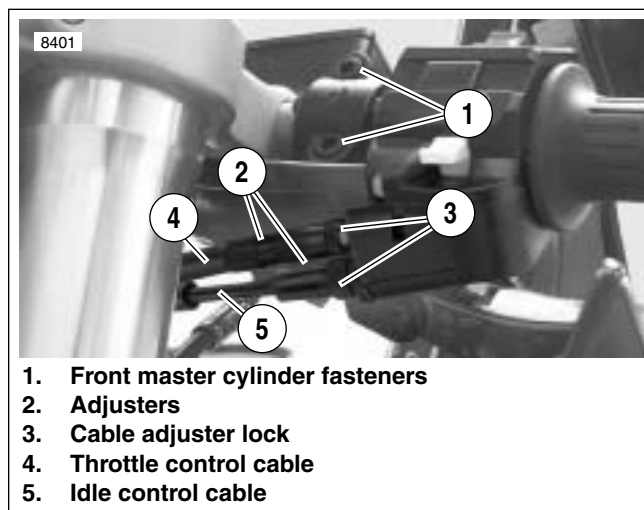
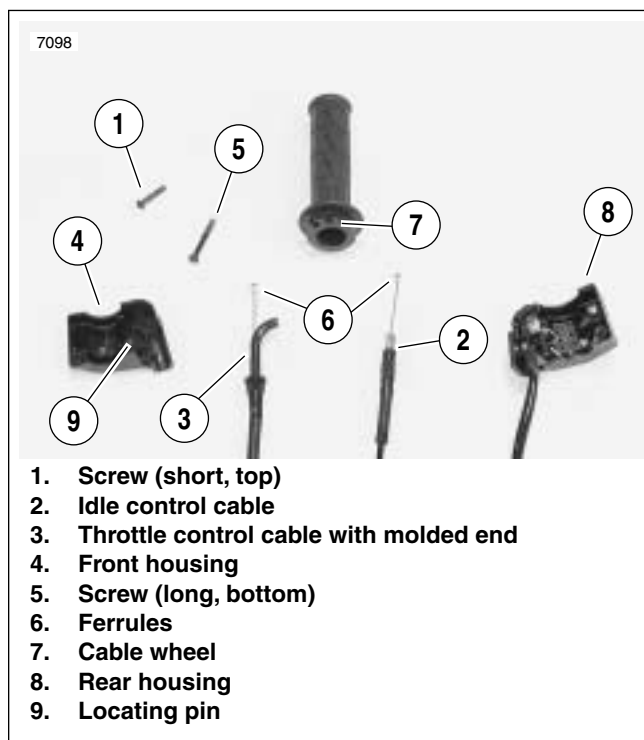

Figure 2-92. Throttle Control Cables
Figure 2-93. Cable Connections
1. See Figure 2-92. Loosen cable adjuster lock (thick disc) (3) on each cable.
2. Turn adjusters (thin disc) (3) in direction which will shorten cable housings to minimum length.
3. Remove fasteners (1) on right switch housing and separate housing from handlebar.
4. See Figure 2-93. Remove cables (2, 3) from notches in front housing (4).
5. Remove ferrules (6) from throttle (7).
3. Install throttle grip and position ferrules (6) into cable wheel (7).
7. See Figure 2-92. Attach rear switch housing and position housings on right handlebar by engaging locating pin on front housing with hole in handlebar. Attach housings with two fasteners, installing longer fastener on bottom. Tighten to 25-33 **in-lbs** (3-4 Nm).